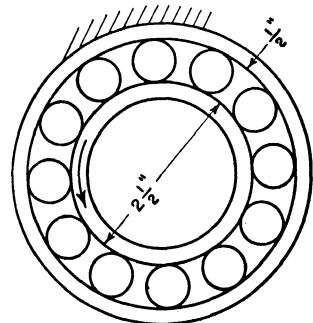

Fig. P 11.13
11.13. A ball bearing is shown in Fig. P 11.13. The inner race rotates with the shaft at 1000 rpm. Assume pure rolling between the rollers and races. Determine the speed of the roller cage.